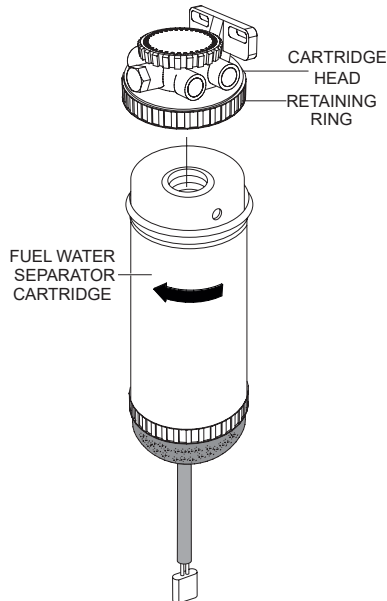

Figure 63. Fuel Water Separator
1. Use a filter wrench to remove the fuel water separator cartridge (Figure 63) from the cartridge head.